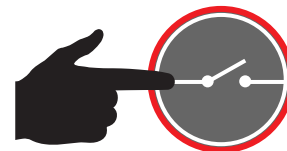

Figure 196. Main Circuit Breaker OFF Button
1. Navigate to the **Home screen (1 of 7)** on the touch display, then press the **Main Circuit Breaker OFF button** (Figure 196) to open the circuit breaker contacts. If the generator is running in Auto mode, stop the engine and place the unit in **Semi-Auto mode**.